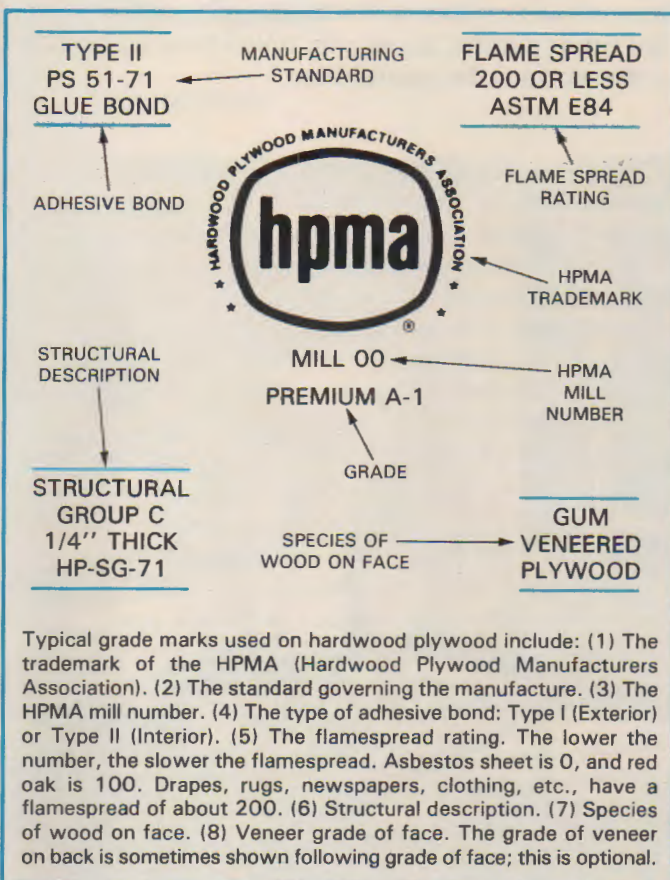

Fig. 13-16. Hardwood plywood panels are graded using the HPMA grade mark.
- *Specialty* hardwood plywoods refer to special orders between manufacturers and purchasers. Special cuts of veneer can be ordered. The method of matching the veneer also may be specified. Specialty plywoods are ordered for architectural purposes. The grade is stamped on the face and edge of the panel, Fig. 13-16.
The strength of hardboard permits thin panels—1/8, 3/16, and 1/4 in. (3 mm to 6 mm)—to be fabricated, Fig. 13-16. Panel measurements are typically 4 ft. wide by 8, 10, 12, or 16 ft. long. Panels can be surfaced on either one side (S1S) or two sides (S2S). The unsurfaced side of S1S has a screen-like texture.